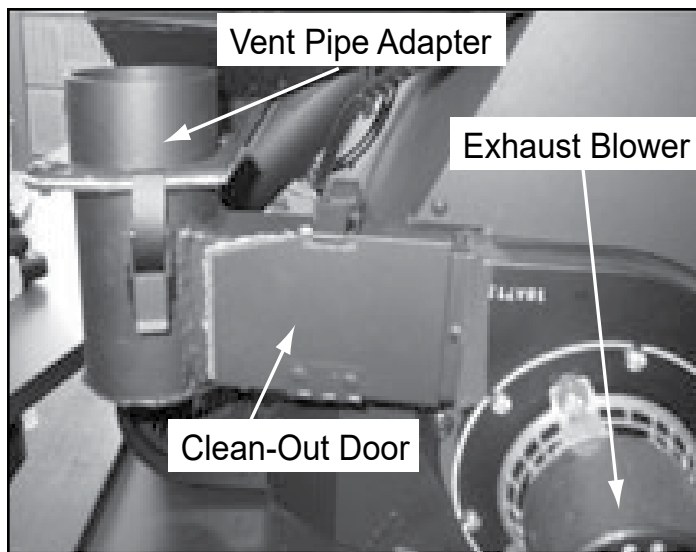

Figure 22.3
- Clean the exhaust blower blades while the access cover on the left side is still removed (**Figure 22.3** and **Figure 23.4**).